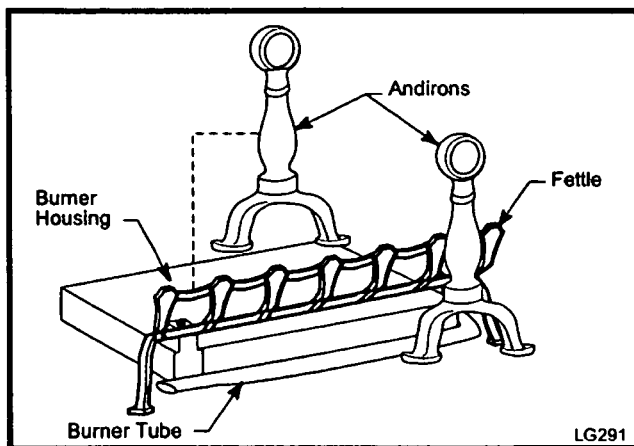

Fig. 41 Ensure fettle is securely attached to the burner housing and set andirons in place.
1. Ensure the two (2) screws that attach the fettle to the burner are secure.
2. Set the andirons in place by hooking the tabs on the back of the andirons over the outermost webs of the fettle. (Fig. 41)